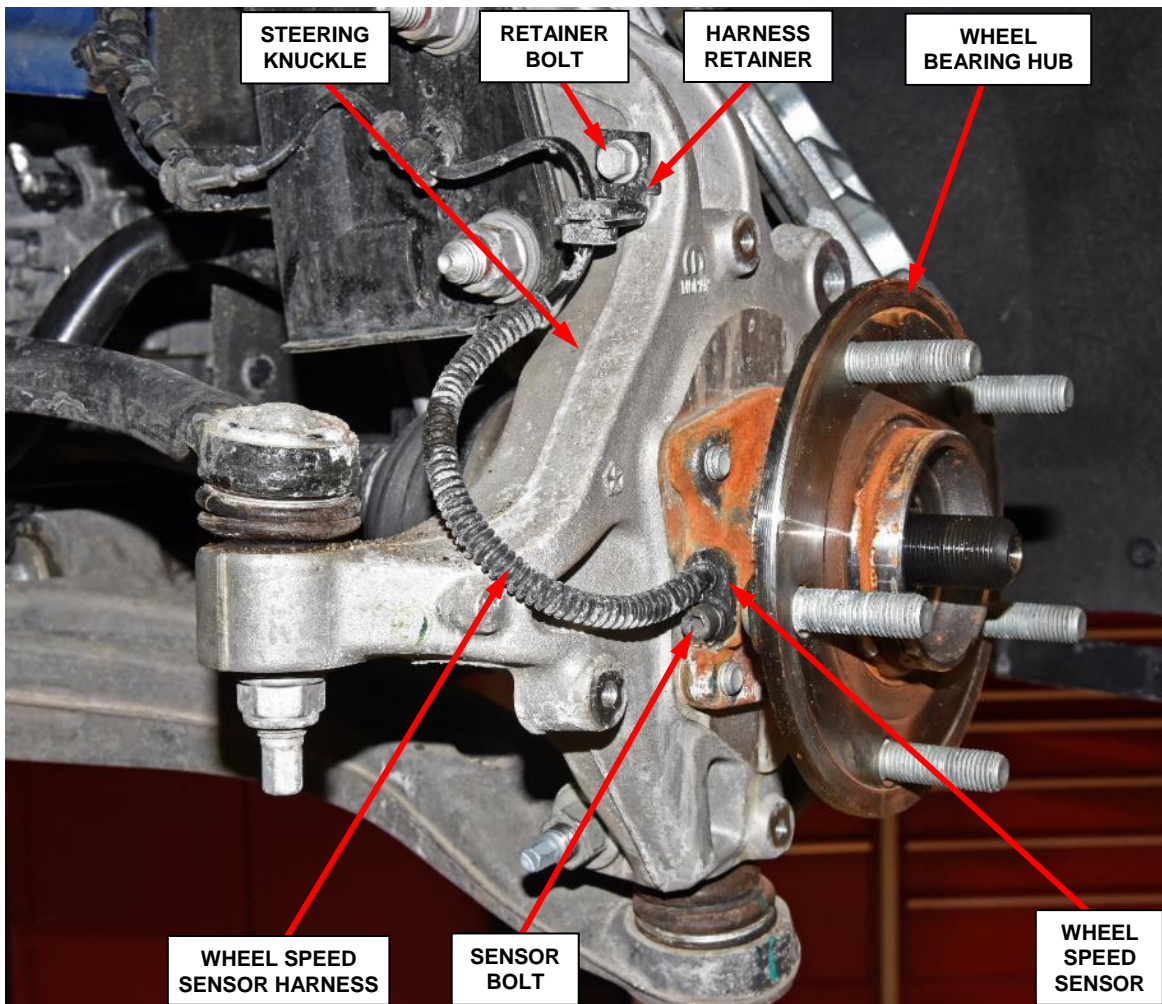

Figure 9 – Wheel Speed Sensor
8. Remove and DISCARD the bolt securing the wheel speed sensor to the wheel bearing (Figure 9).
9. Remove the wheel speed sensor from the wheel bearing hub (Figure 9).
10. Remove and SAVE the bolt securing the wheel speed sensor wire harness retainer to the steering knuckle (Figure 9).
41. Install the wheel speed sensor wire harness retainer and bolt to the steering knuckle. Tighten the bolt to 8 N·m (71 in. lbs.) (Figure 9).
42. Install the wheel speed sensor with lubricant and NEW bolt to the wheel bearing hub. Tighten the bolt to 8 N·m (71 in. lbs.) (Figure 9).